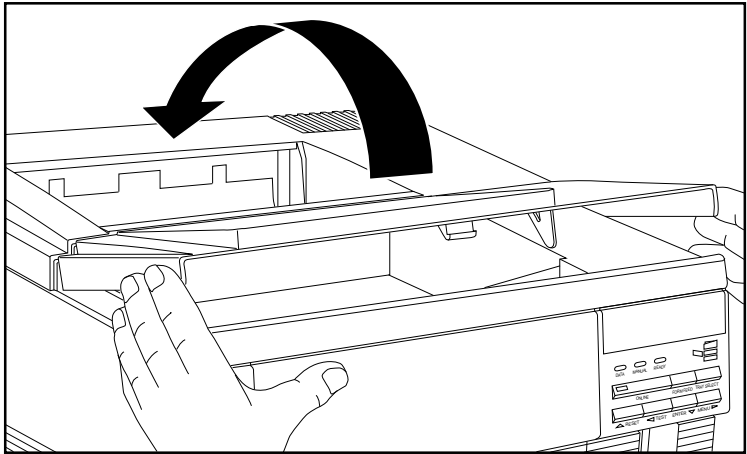

Fig. 9.7 Open the Top Cover
3. Open the top cover by pressing in on the raised finger grips on each side and lifting up and back approximately 180° (fig. 9.7).